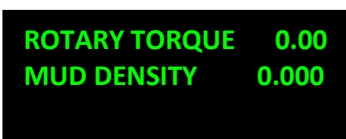

Figure 7. Readings on the Control Module display in operating mode
6. The DN-130(P) Functional Test
For functional test of the DN-130(P) it is necessary to connect the sensor to the MU-150 / MU-150E / MK-140 unit, to turn power on and to make sure that the parameter MUD DENSITY is displayed on the MU-150 / MU-150E EL screen (see Fig. 7).